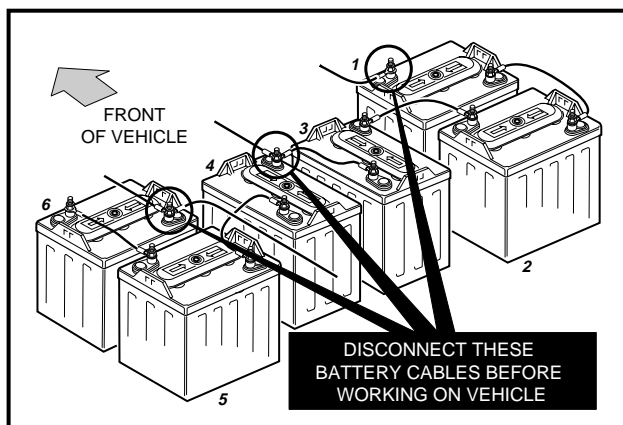
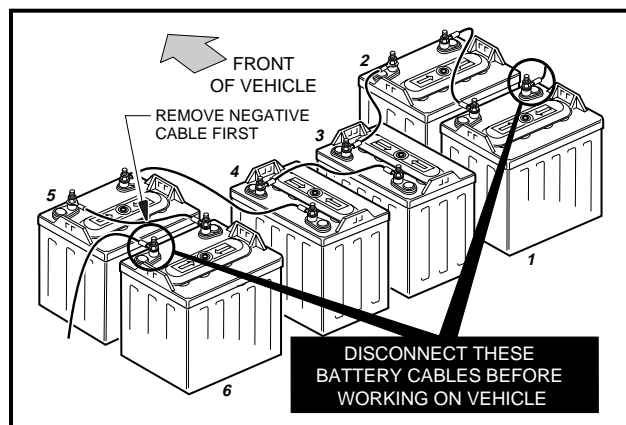

Figure 1 V-Glide 36-Volt Vehicle
Figure 2 PowerDrive System 48 and PowerDrive Plus Vehicles
- TO AVOID UNINTENTIONALLY STARTING THE VEHICLE, DISCONNECT THE BATTERIES AS SHOWN (**FIGURE 1 AND FIGURE 2, PAGE 2**). **ON POWERDRIVE SYSTEM 48 AND POWERDRIVE PLUS VEHICLES**, ALSO DISCHARGE THE CONTROLLER AS FOLLOWS: